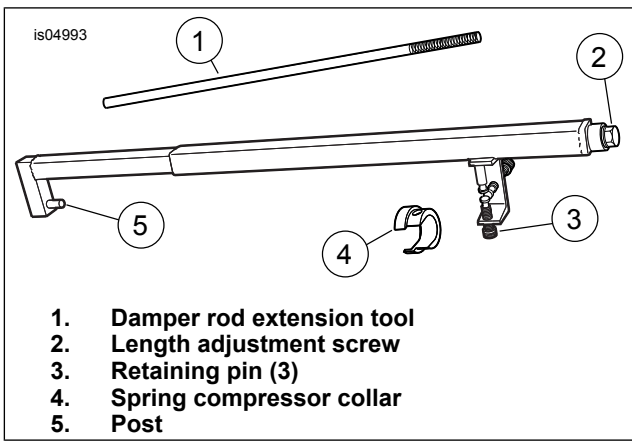
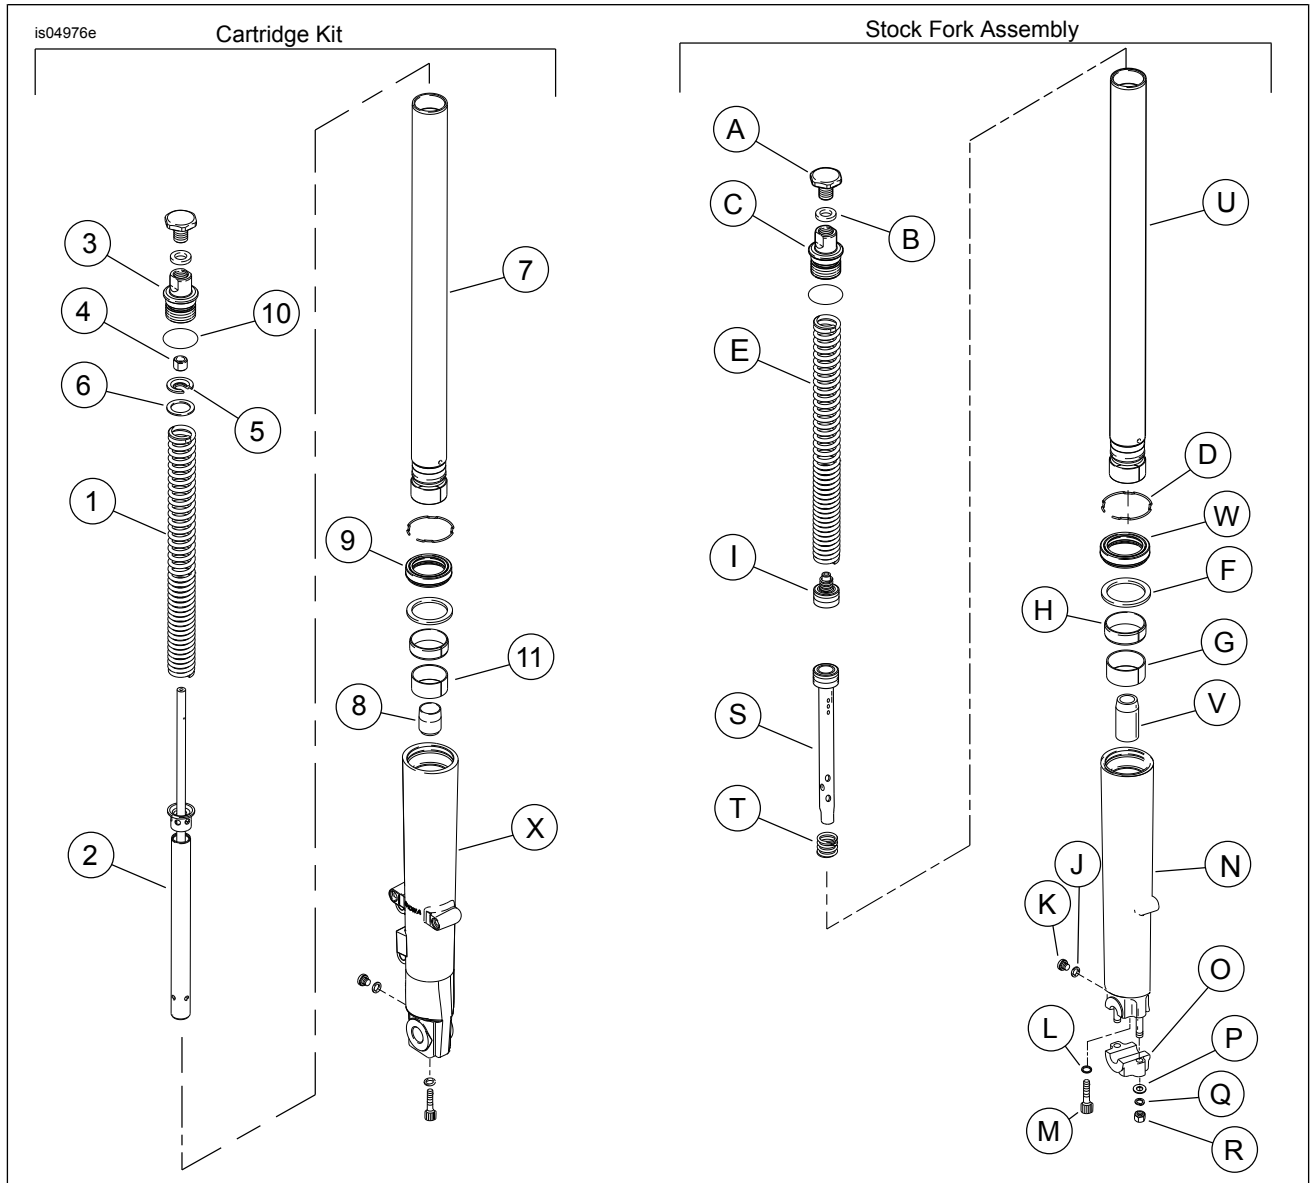

Figure 7. Fork Spring Compressing Tool (HD-45966)
Figure 10. Service Parts: FLHT, FLHR (Road King) Front End Cartridge Kit
Refer to Figure 10 for the following procedure.
19. See Figure 7. Install fork spring compressing tool as follows:
- a. Clamp tool in vise in a vertical position with length adjustment screw (2) upward.
- b. Place hole at bottom of fork slider over post (5) at bottom end of tool.
- c. Place flat washer (Item 6, Figure 10), over the damper rod extension tool and on top of spring. Place spring seat (Item 5, Figure 10), concave side up, on top of the flat washer. With the smaller OD upward, place spring compressor collar (item 4, Figure 7) over spring seat and flat washer.
- d. Adjust tool as necessary until three retaining pins (3) engage blind holes in spring compressor collar (4). Turn length adjustment screw counterclockwise to lengthen and clockwise to shorten.
22. Install new jam nut (4) with non-threaded end over the damper rod first. Thread onto damper rod until it bottoms out on the shoulder.